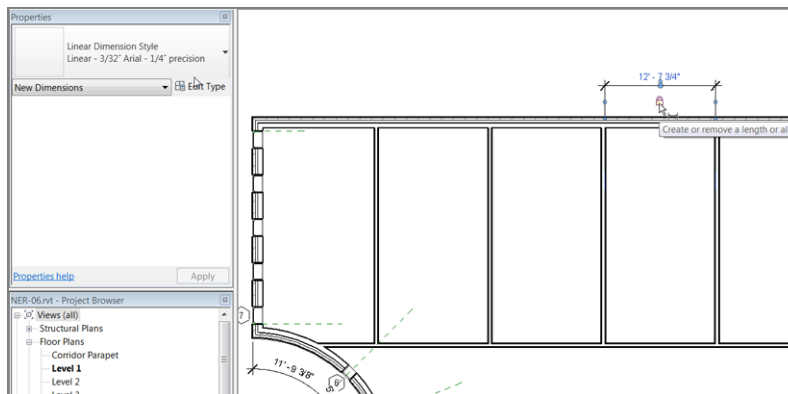

FIGURE 5.34: You can add a dimension and lock the distance between two items.
2. In the Properties dialog, select the Linear - 3/32" Arial - 1/4" Precision dimension style, as shown in Figure 5.34.
4. Pick the inside faces of the two middle partitions, as shown in the upper-left corner of Figure 5.34.